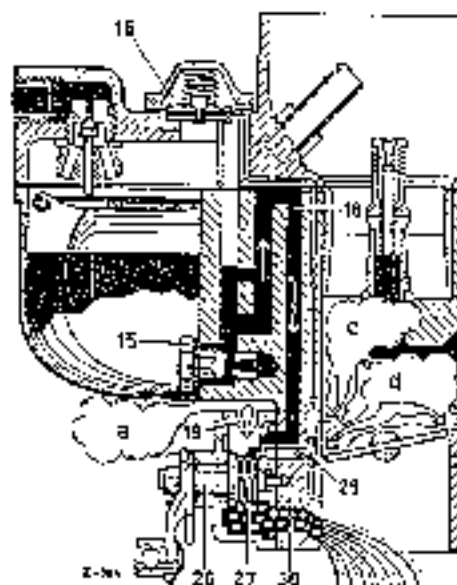

Fig. 07-0/13
- 34 Aperture in starter rotary slide valve for starter mixture canal (30)
At the same time air is drawn from the suction canals of the carburetor through the canal (29). In the chamber (31) of the starter rotary slide valve this additional air mixes with the pre-mixture which enters the starter mixing chamber (27) via the graded bore (32) in the starter rotary slide valve. Here the mixture combines with the pre-mixture entering through the graded bore (33) in the starter rotary slide valve and the air entering through the starter air bore (19) in the starter housing which acts as a starter air jet. The fuel-air mixture which is now formed passes through the aperture (34) in the starter rotary slide valve and the starter mixture canal (30) into the two suction canals of the carburetor and together, with the air streaming through the throttle valve gap forms the final start mixture. Fig. 07-0/13 shows the mode of action of the starter mechanism phase 1 when the engine is being started.